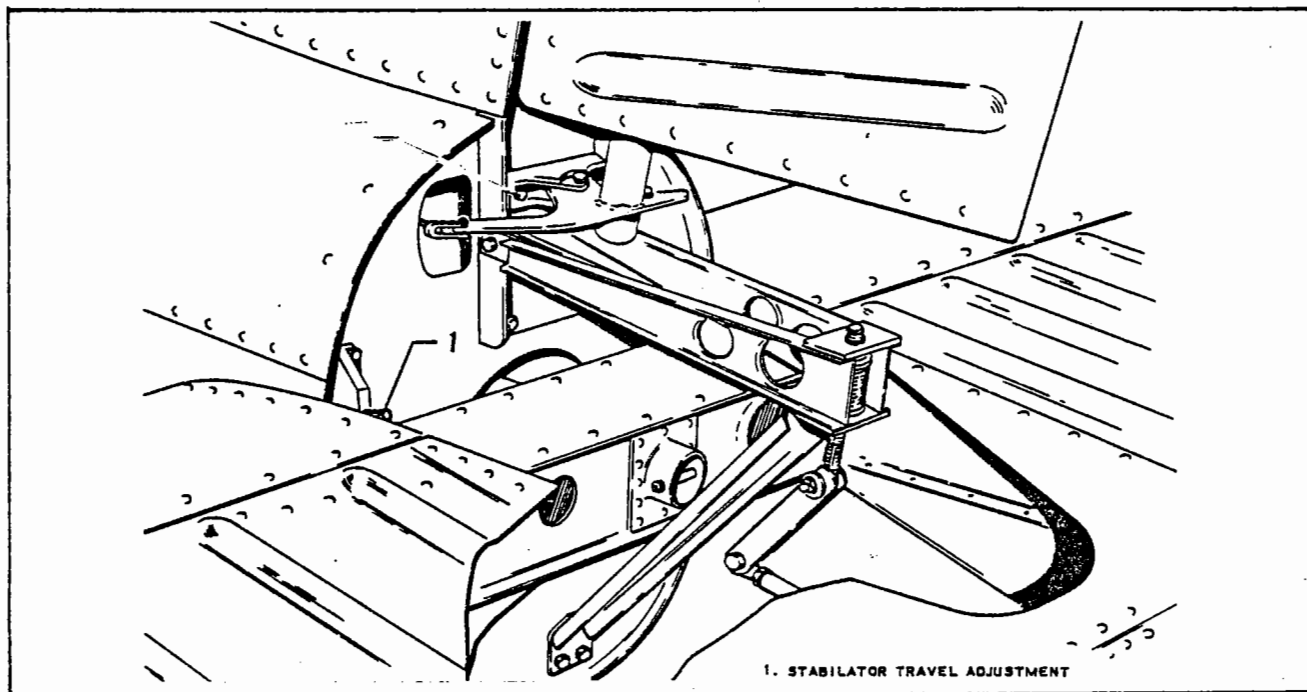

Figure 27-17. Stabilator Travel Adjustments
- F. Should the stabilator travel be incorrect in either the up or down position, remove the fin tip by removing the attachment screws and with the use of the rigging tool and bubble protractor turn the stops located at each stabilator hinge in or out to obtain the correct degree of travel. (Refer to Figure 27-17.)